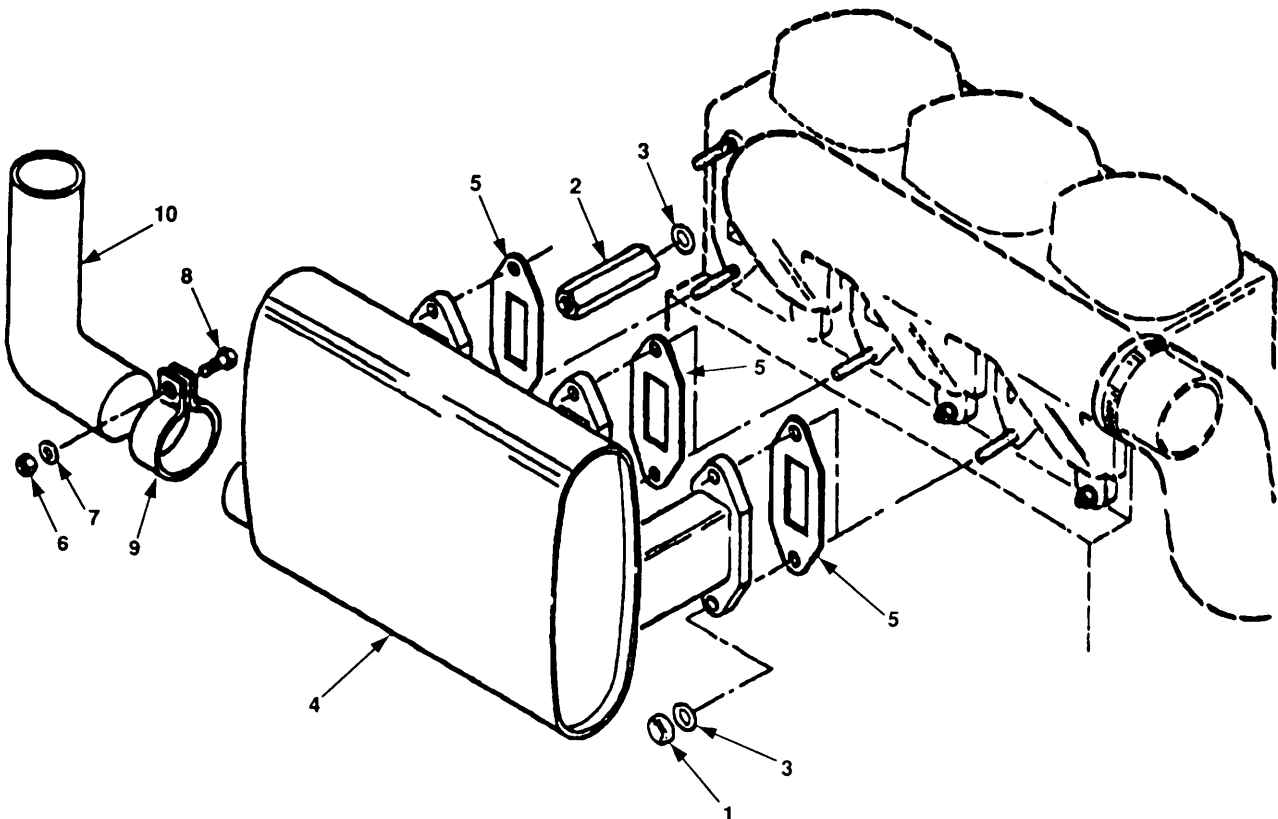

Figure 4-4. Exhaust Pipe Maintenance.
- a. Remove five nuts (Figure 4-4, 1), one post (2) and six washers (3) that secure muffler (4) to engine. Retain all parts removed.
- b. Carefully remove muffler (4) from studs.
- c. Remove and discard three gaskets (5).
- a. Loosen nut (Figure 4-4, 6), lockwasher (7) and bolt (8) that secures clamp (9).
- b. Remove exhaust pipe (10) and clamp (9) from muffler (4).